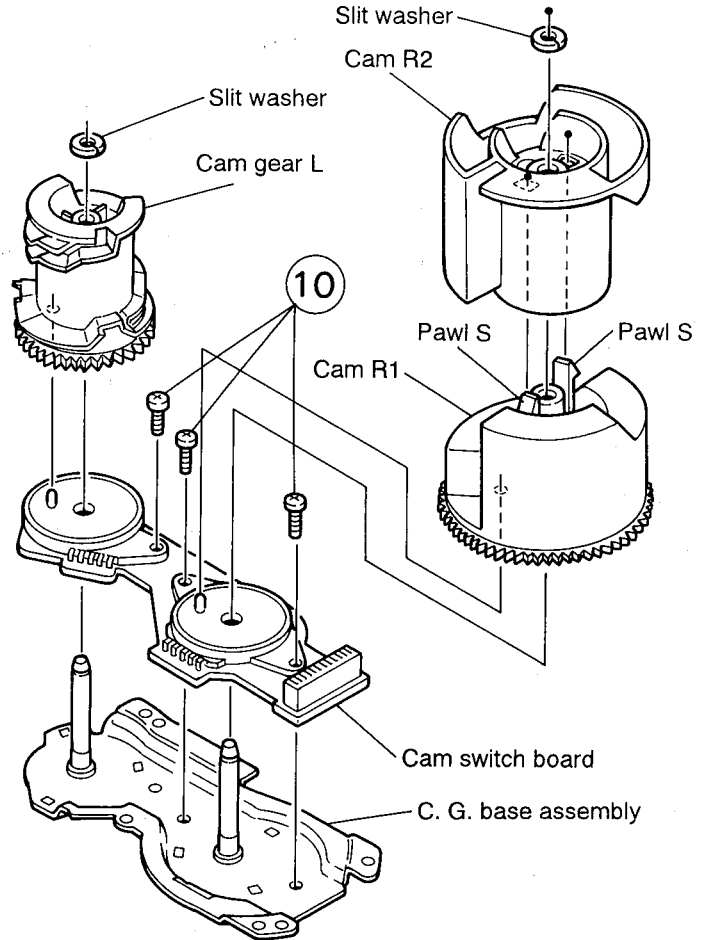

Fig. 2-32
**Removing the cams R1/R2 assembly and cam gear L** (See Fig. 2-32)
2. By removing the two pawls (S) fixing the cam R1, separate R2 from R1.
(See Figs. 2-32 and 2-33)